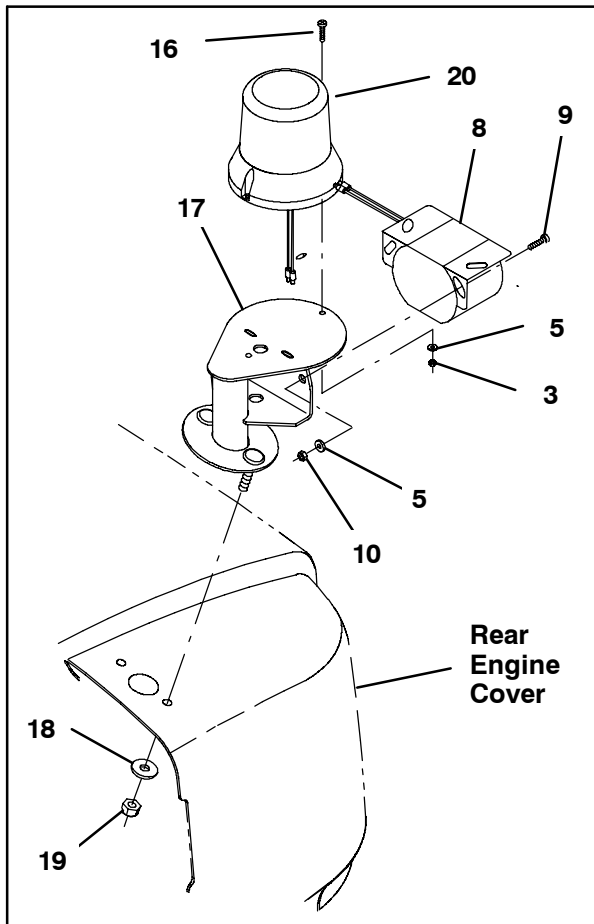
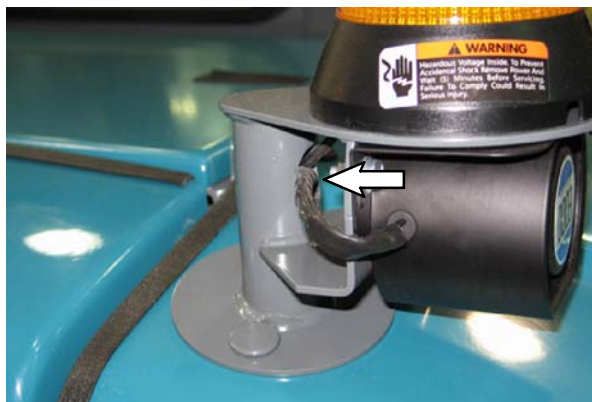
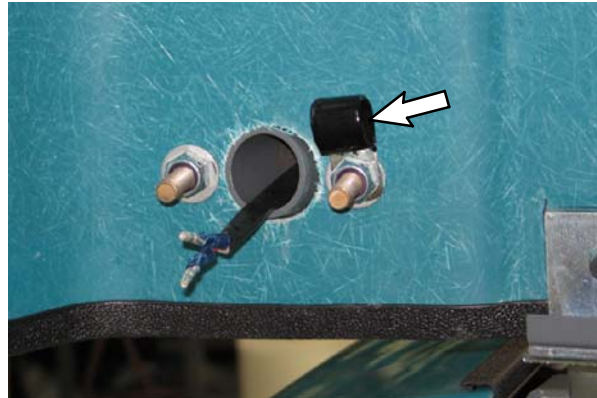

FIG. 2
FIG. 3
FIG. 4
- Machines without overhead guards only:** Use two pan screws (16), two washers (5), and two hex nuts (3) to install the light (20) onto the light bracket (17). Refer to Fig. 2.
- Use two pan screws (9), two washers (5), and two hex nuts (10) to install the backup alarm (8) onto the light bracket (17). Refer to Fig. 2.
- Route the cable from the backup alarm (8) (and the light (20) if light is installed on the light bracket (17)) through the hole in the bracket and the larger hole in the rear engine cover. Refer to Fig. 2 and Fig. 3.
- Use two hex nuts (19) and two washers (18) to install the light bracket (17) and cable clamp (22) onto the rear engine cover. Refer to Fig. 2 and Fig. 4.